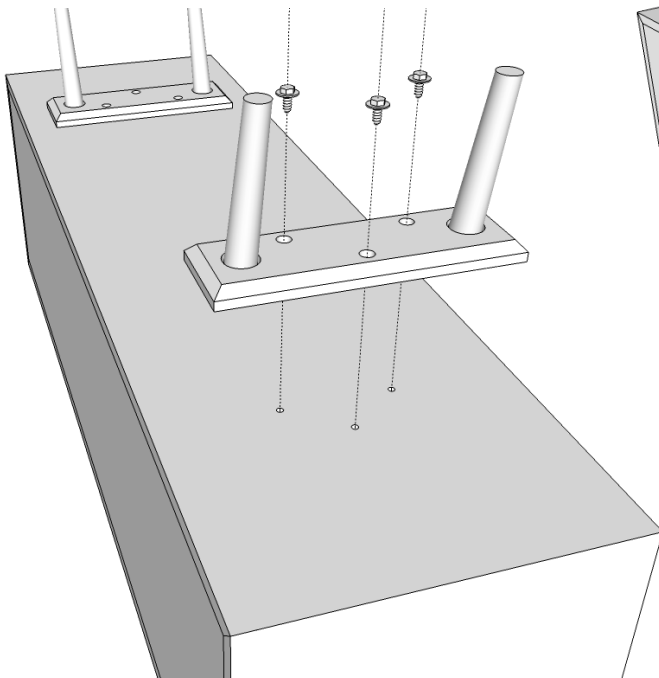

FIGURE 1
- 2) LINE UP THE 3 HOLES IN THE LEG ASSEMBLY PLATE WITH THE 3 PRE-DRILLED HOLES IN THE BOTTOM OF THE CASE UNIT. SEE *FIGURE 1*.